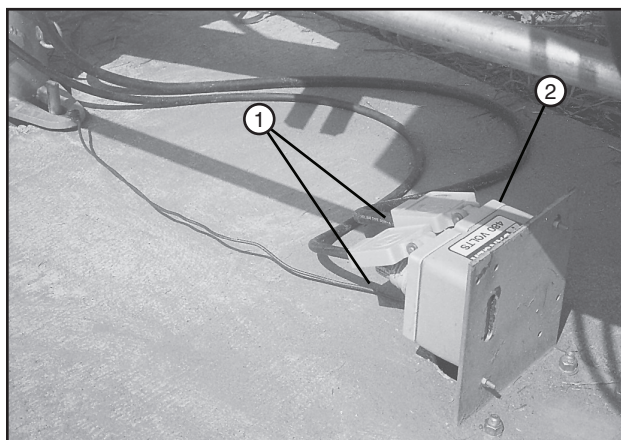

Figure 54-3 1. Power and Pump Control Plugs
25. With the disconnect in the OFF position, plug the power and pump control plugs into the receptacles. See Figure 54-3.